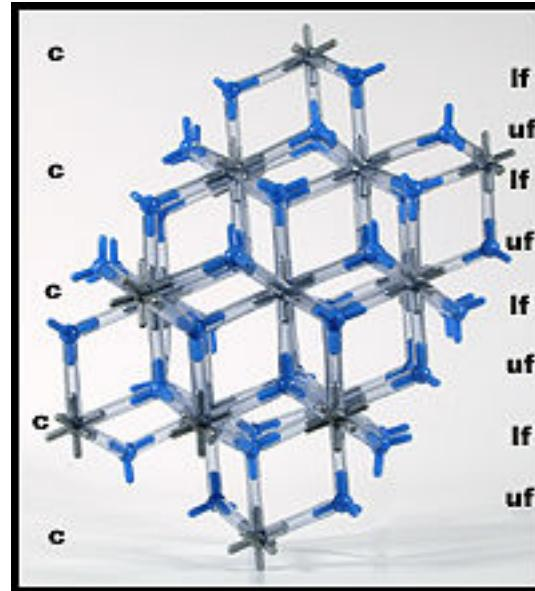

Fig. 13 Orientation of the model showing cation and anion layers. c=calcium layer; uf=upper fluoride layer (T_+); lf=lower fluoride layer (T_-).
11. If the fully constructed model is oriented as seen in Fig. 13, you can observe 5 layers of calcium ions and eight layers of fluoride ions. The cations are arranged in an A, B, C pattern of layers. The anions fill the tetrahedral holes above (T_+) and below (T_-)